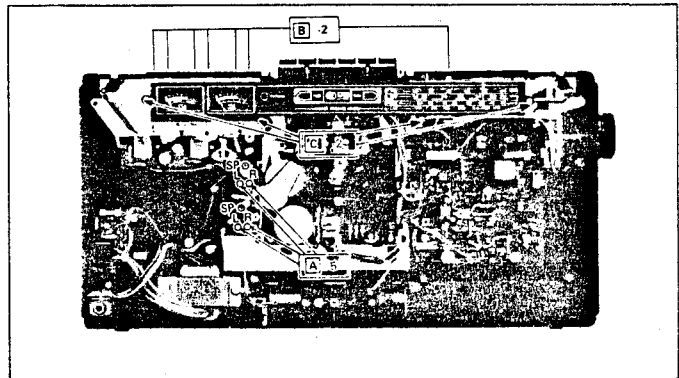
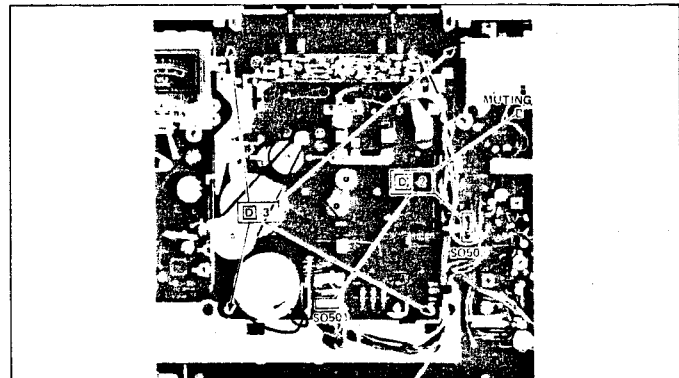

Figure 3
Figure 4
- B OPERATION PANEL REMOVAL** (Refer to Figure 3)
2. Remove seven (7) knobs (RECORD LEVEL, BASS, TREBLE, VOLUME and FADER).
- C DIAL SCALE PLATE REMOVAL** (Refer to Figure 3)
2. Remove four (4) screws retaining the dial scale plate.
- D MECHANISM BLOCK REMOVAL** (Refer to Figure 4)
2. Disconnect the tip (Muting) and two (2) sockets (SO501, SO502) connected to the main P.W. board and the motor P.W. board.
3. Remove four (4) screws retaining the mechanism block.